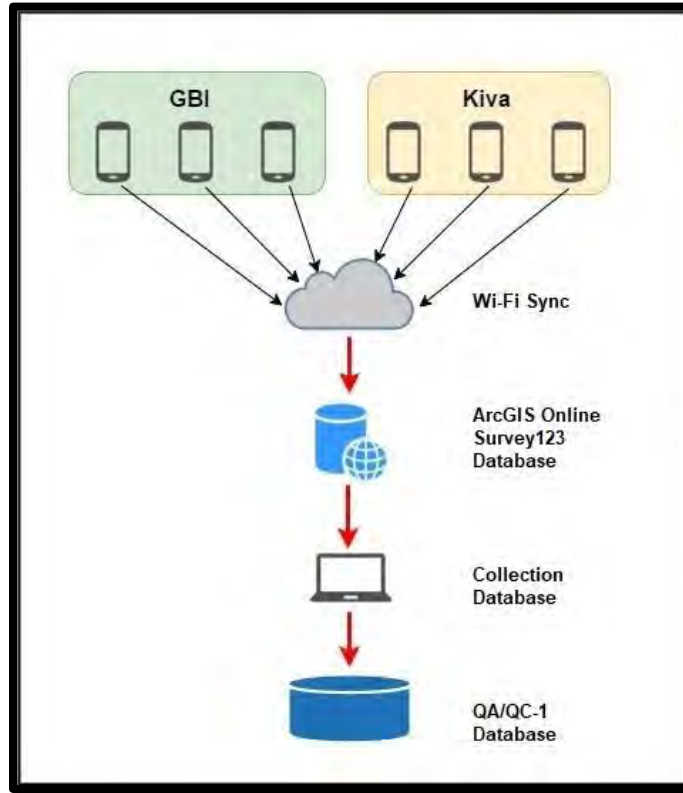

Figure 7-1
- Database – The Survey123 database you will be adding to while monitoring is comprised of related electronic data that will be organized to allow easy access and querying once finalized. The final database is created in four stages, described in Figure 7-1 and the steps below. Each stage passes through several iterations of Quality Assurance/Quality Control (QA/QC) to create an accurate database.